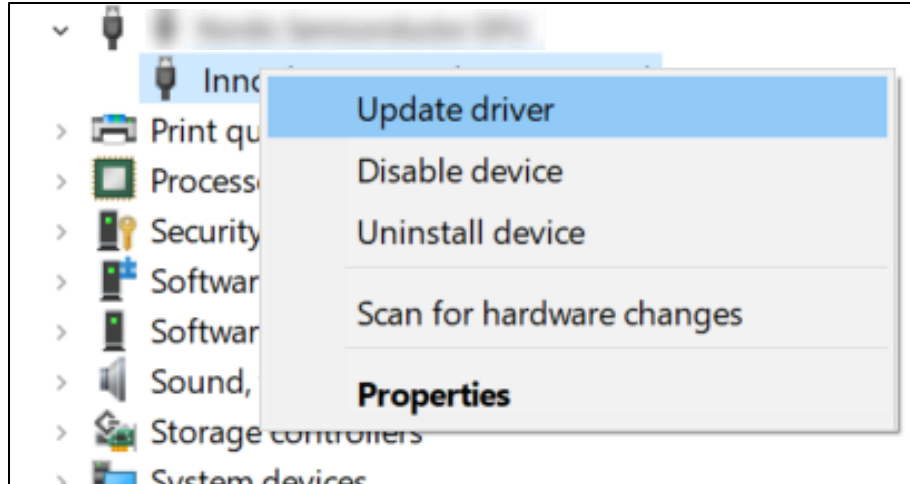
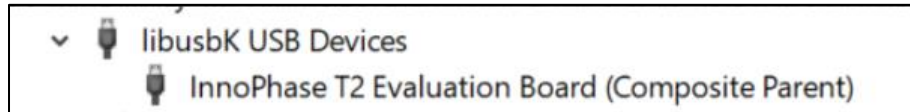

Figure 2: Update device driver for Talaria TWO Evaluation Board
Figure 3: Talaria TWO Evaluation board under "libusbK USB Devices" driver
(as shown in Figure 2). Then, ensure the Talaria TWO Evaluation Board is detected under “libusbK USB Devices” in device manager (as shown in Figure 3).
- b. No device found: Manually install the driver using instructions from section: Installation instructions for libusbK driver and ensure that Talaria TWO Evaluation Board is detected under libusbK USB Devices driver (as shown in Figure 3).